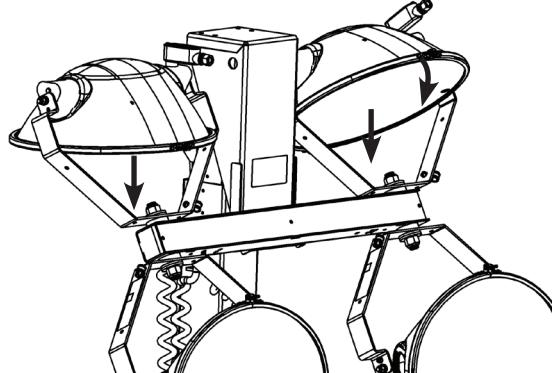

Figure 8
*NOTE: When transporting on a trailer, position the two top light fixtures straight down to provide additional overhead clearance. See Figure 8.*